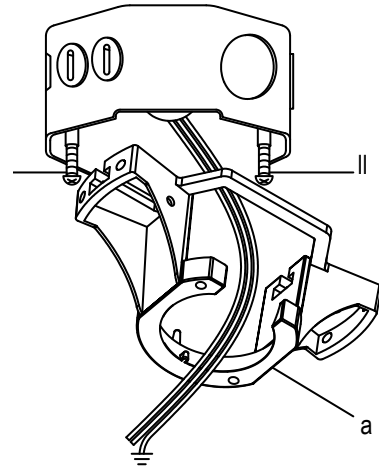

Fig. 5
Step 2. Attach the ceiling mounting bracket to the outlet box using the screws and washers included with the outlet box. (Fig. 5)